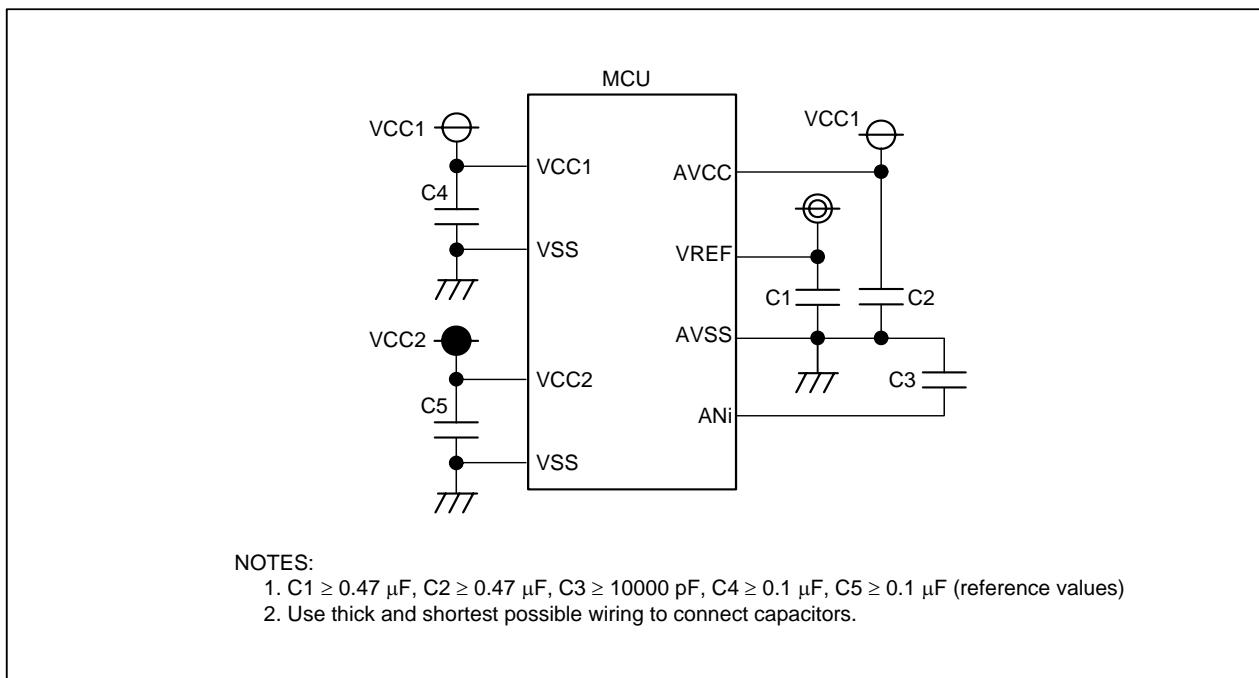

Figure 25.4 Individual Pin Handling
- To prevent latch-up and malfunction due to noise and also to minimize a conversion error, insert a capacitor between the AVSS pin and each of the following pins: the AVCC pin, VREF pin, or analog input pin ANi_j (i = none, 0, 2, 15; j = 0 to 7). Insert a capacitor between the VCC pin and the VSS pin as well. Figure 25.4 shows an example of individual pin handling.